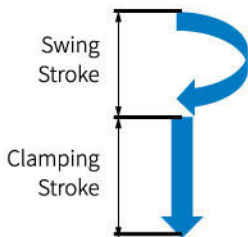

Figure 2
- Swing clamp cylinders can be single-acting (with spring return) or double-acting, offering both clockwise and counterclockwise rotation. The standard rotation angle is 90° , with options for 60° , 45° , 30° , and 0° (as shown in Figure 2).